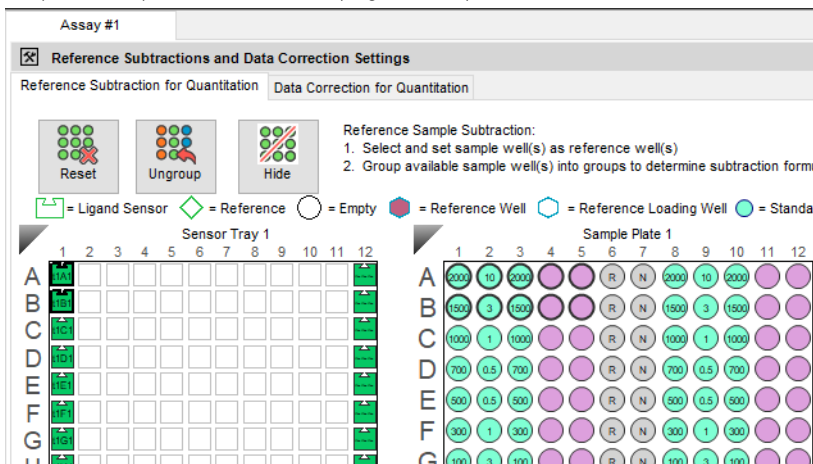

Figure 9-8: Biosensors and Associate Sample Wells Highlighted
- Selecting columns, rows or wells in the biosensor tray map also highlights the associated wells in the sample plate map and vice-versa (Figure 9-8).